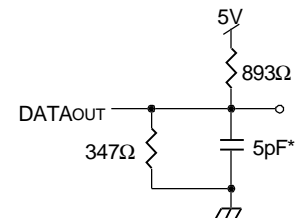

Figure 2. Output Test Load
1. Transition is measured ±200mV from Low or High-Impedance voltage with the Output Test Load (Figure 2)
1. Transition is measured $\pm 200\text{mV}$ from Low or High-impedance voltage with the Output Test Load (Figure 2).
7. Transition is measured $\pm 200\text{mV}$ from Low or High-impedance voltage with the Output Test Load (Figure 2). This parameter is guaranteed but is not production tested.